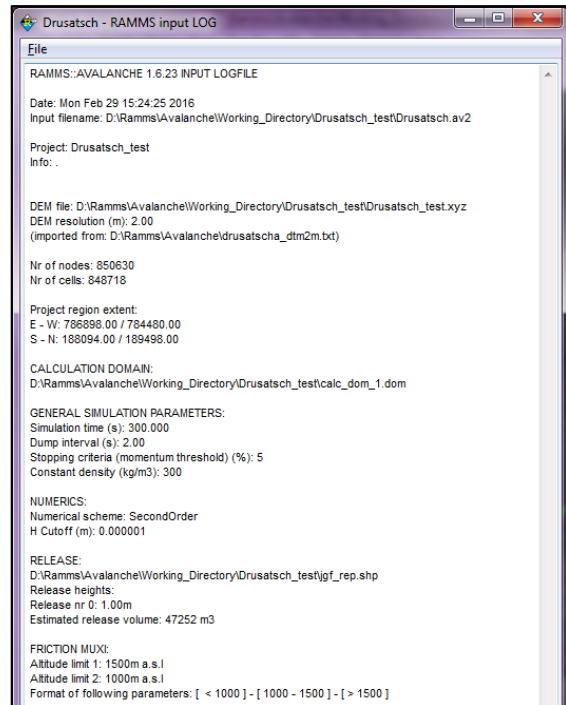

Figure 4-4: RAMMS Project Input Log file.
- (1) Information on simulation time and resolution. Be sure the simulation stopped due to **LOW FLUX** or **CENTER of MASS**. Otherwise the output **TIME END CONDITION** informs you, that your simulation stopped before the avalanche reached the stopping criterion you defined for the simulation (see section 4.2.6 on page 72).
- (2) Information on simulation results.
- (3) Input logfile (see Figure 4-4).